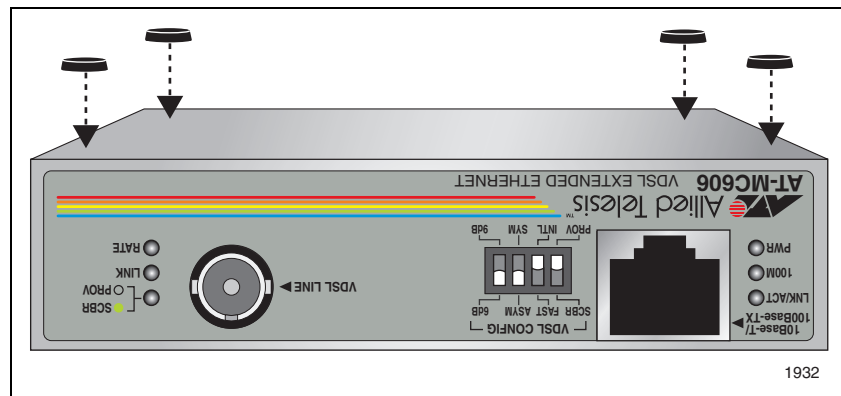

Figure 7. Attaching Protective Feet
2. Attach the four protective feet (provided) to each corner of the bottom of the unit, as illustrated in Figure 7.